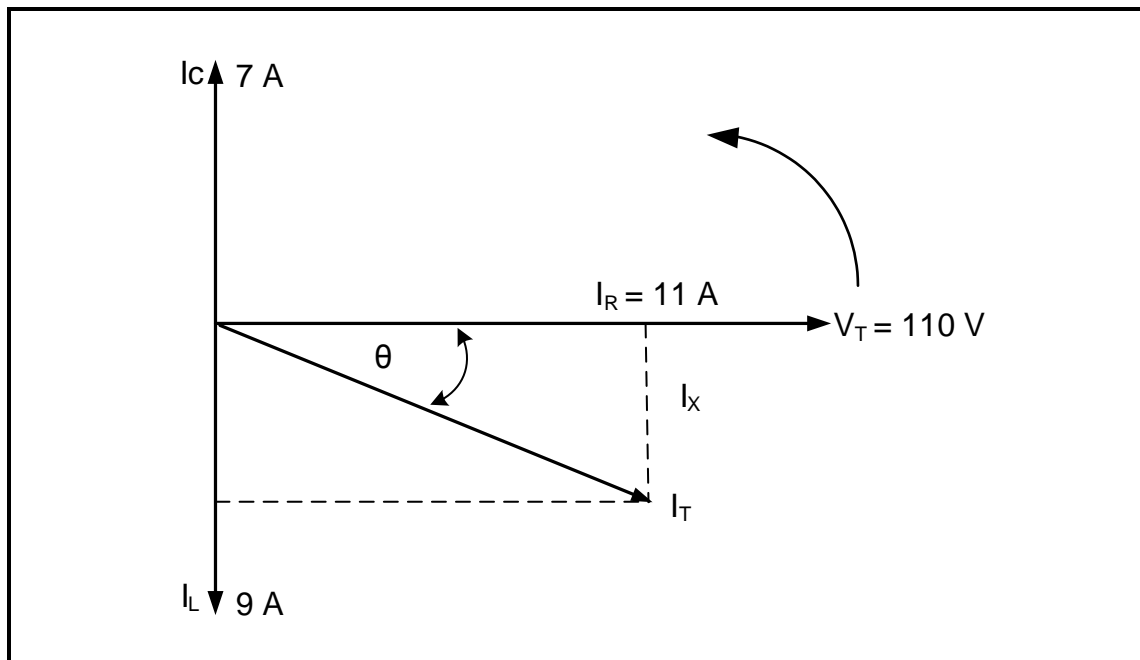

FIGURE 3.4: PARALLEL RLC PHASOR DIAGRAM
3.4 Refer to FIGURE 3.4 and answer the questions that follow.